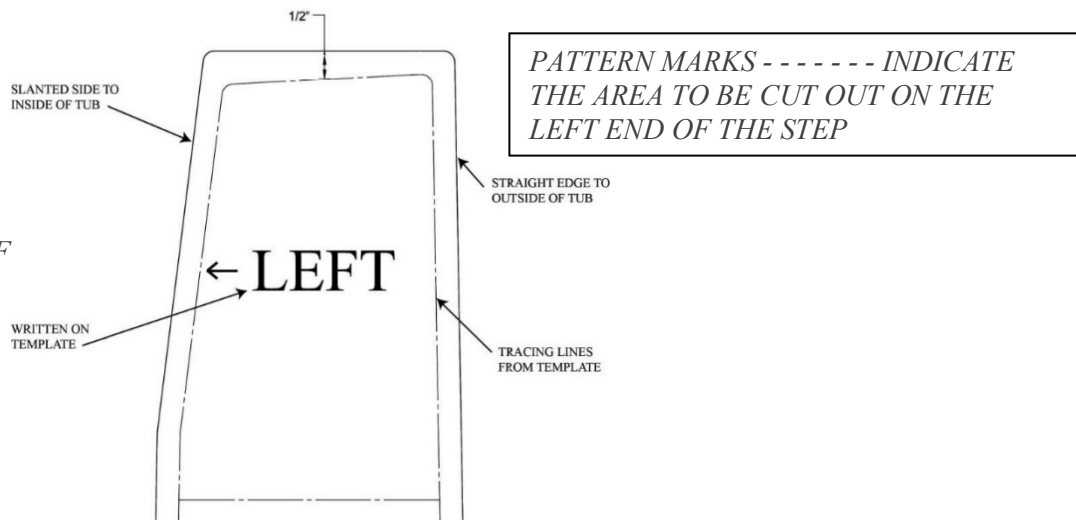

FIGURE 3 – SIDE VIEW OF LEFT END OF STEP
5. Place the right end of the CleanCut Step on the ground in order to trace the left side of the CleanCut Step. Place the top of the paper template approximately 1/2” from the top of the CleanCut Step (Figure 3). Place the tracing on the step so the slope is similar to that of the tub. Trace the outline of the paper onto the CleanCut Step with a continuous line. Continue the lines with a straight edge down and around the corners. Repeat the same procedure for the right end of the CleanCut Step. Remember to place the paper template approximately 1/2” down from the top of the CleanCut Step before beginning to trace. Continue the lines with a straight edge down and around the corners.